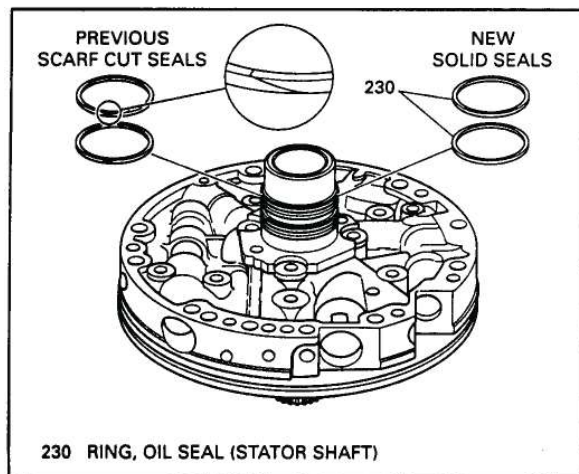

Figure 166
34. Some models use scarf cut seal rings on the stator shaft, as shown in Figure 166, but the solid seal rings will fit ALL previous models and are recommended.